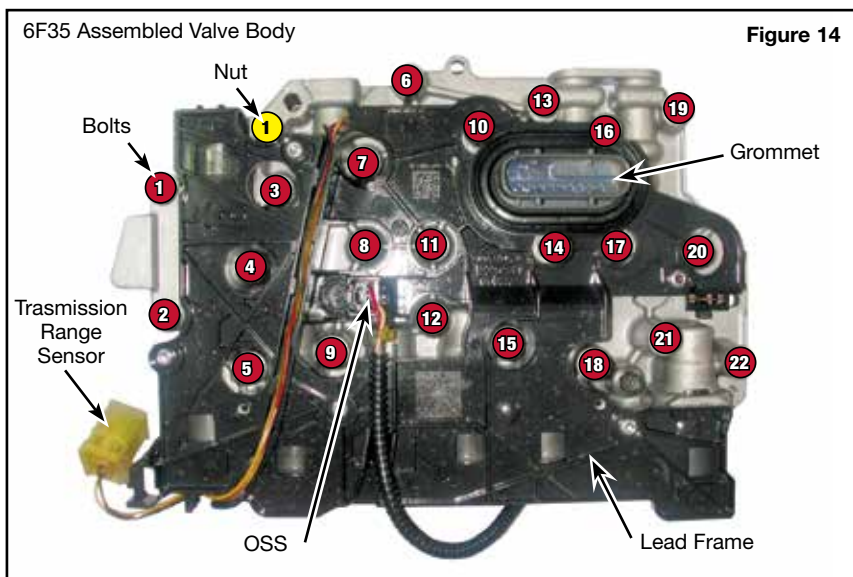

Figure 14
1. Valve Body Removal from Case (Figure 14)
(**Figure 14**)